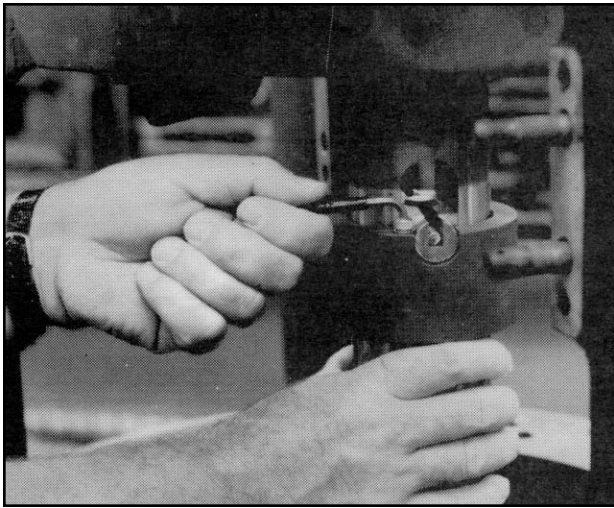

Figure 35
8. Remove adjusting collar, Figure 35.